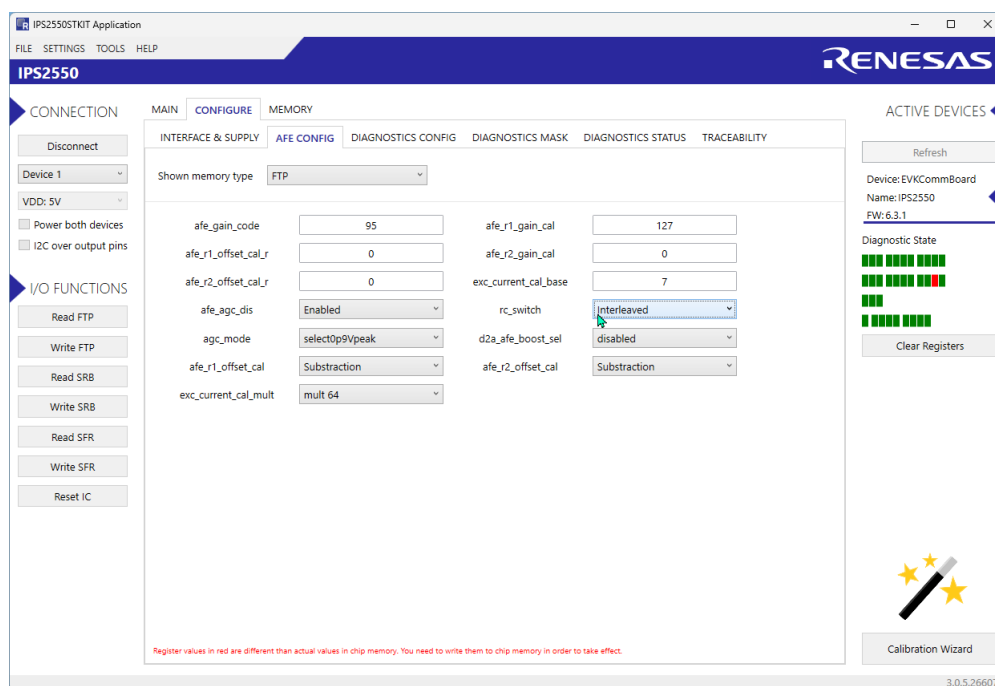

Figure 4. GUI Setting for IPS2550
2. Select either of the following values from the rc_switch drop-down list (see Figure 4):